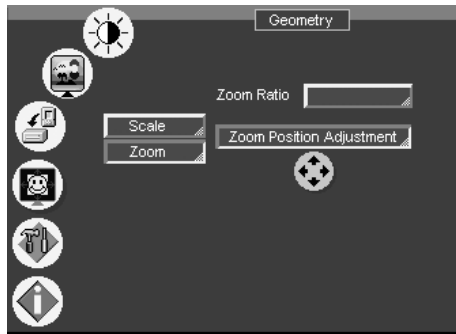

Figure 24: Geometry (Zoom Position Adjustment) Screen
- Using the OSD Menu buttons (see Figure 24)¹